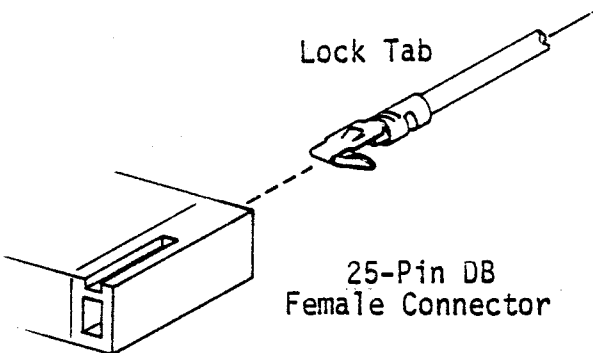

Figure 5-22. Insert Wires Into Socket
2. Referring to Table 5-B, insert each of the 20 wires into its designated socket. Make sure the terminal pin lock-tabs are facing up as shown in Figure 5-22, and push the wires in as far as possible (needle-nose pliers may be used).